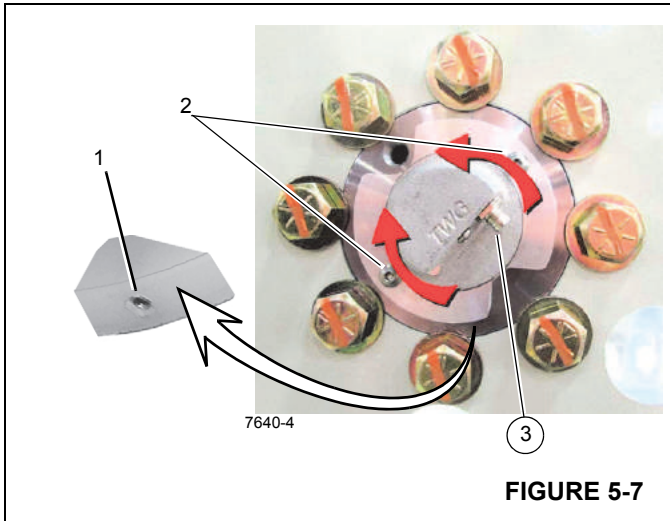

FIGURE 5-7
- Loosen the set screw (1, Figure 5-7) on the side of the DRI flange.
- Using the spanner wrench holes (2, Figure 5-7) rotate the DRI so that the connector (3) is pointed down.
- Tighten the set screw (1, Figure 5-7) after the DRI is positioned as desired.